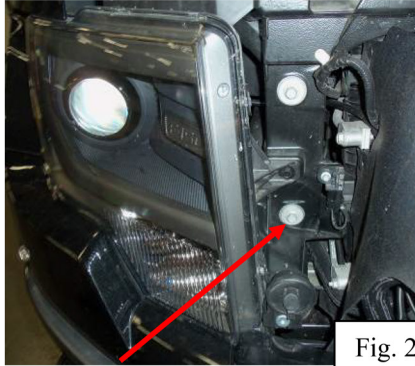
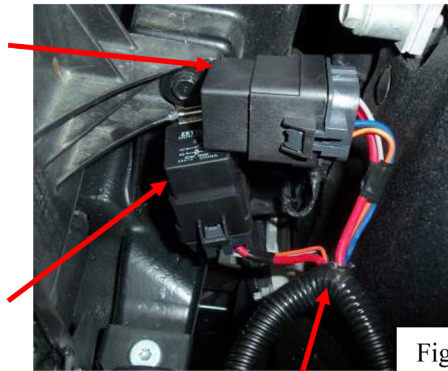

Fig. 22
Fig. 23
23. Remove the 10mm bolt holding the passenger side head light in place (Fig. 22). The wire harness relays will attach using this bolt. Some tape may have to be removed from the harness to allow more slack in the wires for the relays. Attach the relays as shown (Fig. 23).